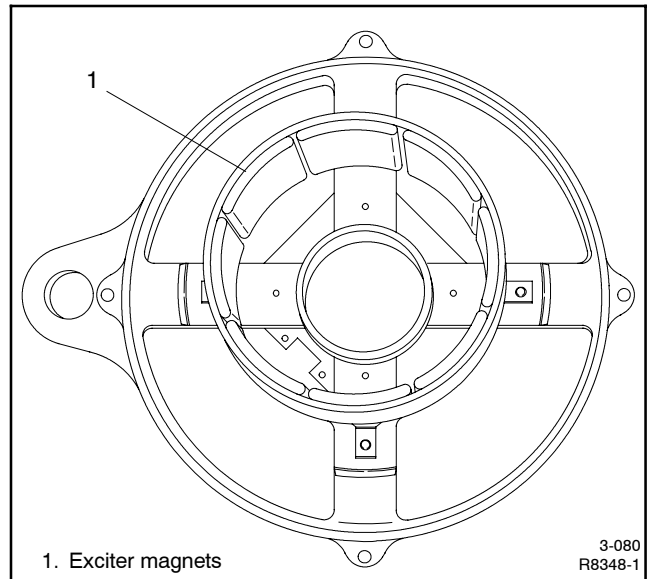

Figure 4-10 End Bracket View
25. Remove the exciter magnets from the end bracket. See Figure 4-10.
1. Attach the exciter field to the end bracket with four mounting screws. See Figure 4-10. Torque to specifications.